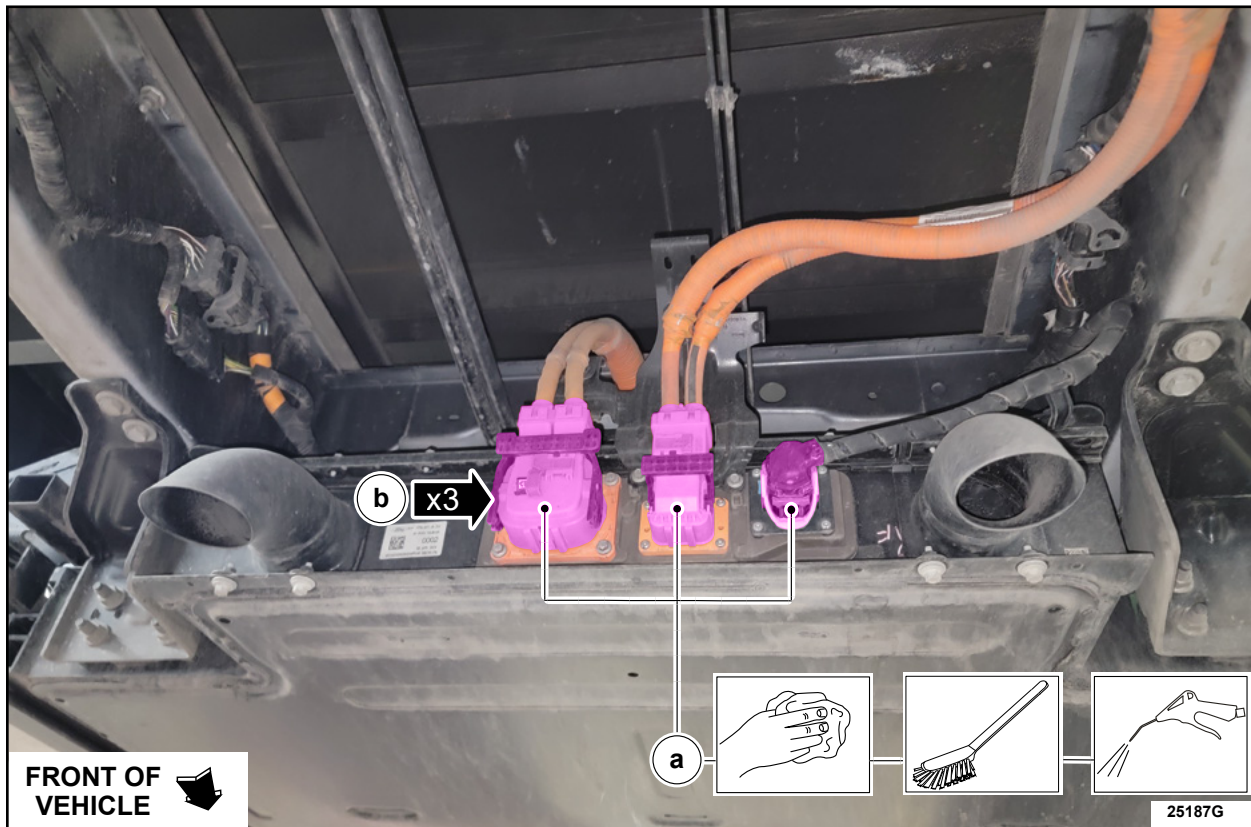

FIGURE 6
8. Disconnect the high voltage battery electrical connectors. See Figure 6.